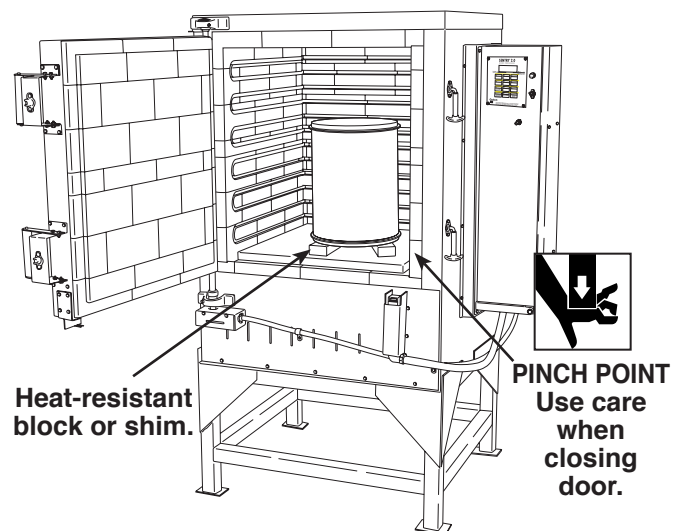

Figure 5
5. Place the DPF on the chamber floor. If positioning the DPF vertically, place heat-resistant blocks or shims under it to allow airflow through the DPF. See Figure 5.